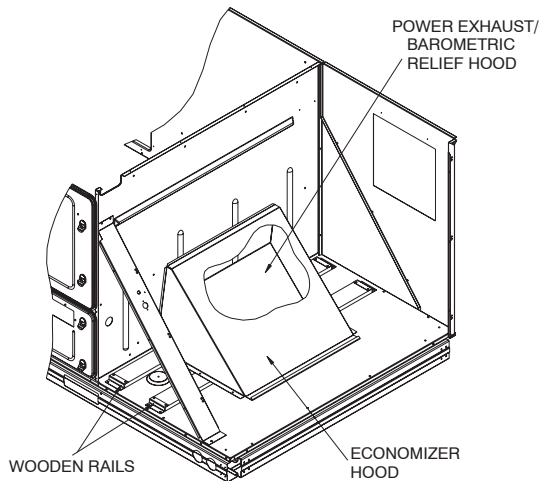

Fig. 14 - Economizer and Barometric Relief/Power Exhaust Hoods Shipping Position
1. Economizer and barometric relief hoods are located in the condenser section under the slanted coil for shipping. (See Fig. 14.) Barometric relief/power exhaust hood is shipped inside of economizer hood. Remove screws that secure the wooden rails of the hood assemblies to the unit. Save screws. Slide complete assembly from condenser section.